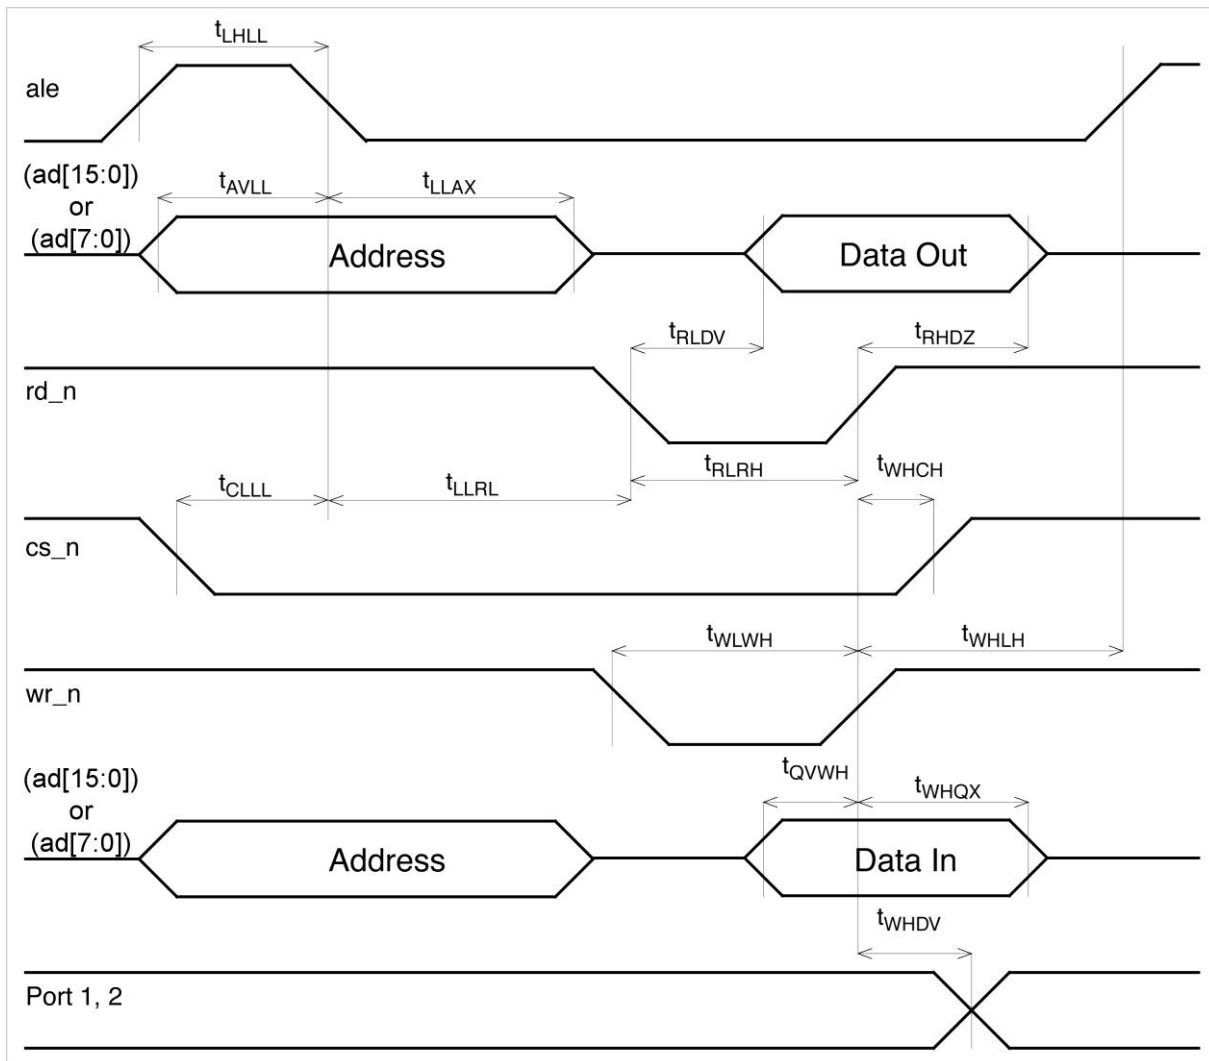

Figure 7. Mode 0 and Mode 1: General Bus Timing
- Mode 0 and Mode 1: General Bus Timing (Table 10/Figure 7)